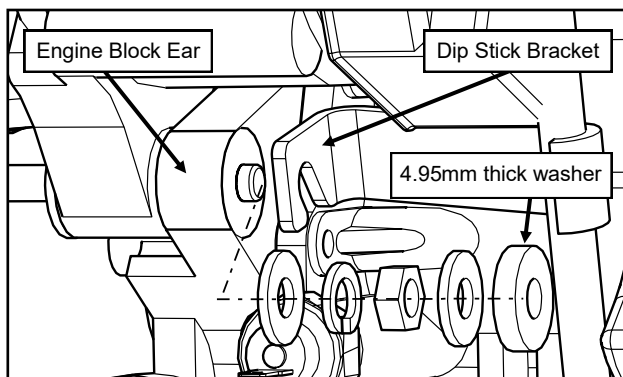

Fig. 2.5 (Alternator to Engine Block Hardware)
*Note: These (5) items (shown lined up in Fig. 2.5) go between the alternator mounting ear of the engine block and the dip stick tube bracket in the order shown.